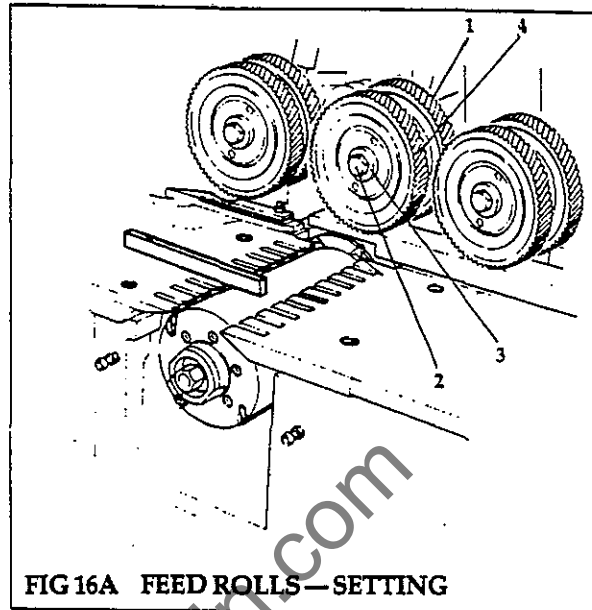
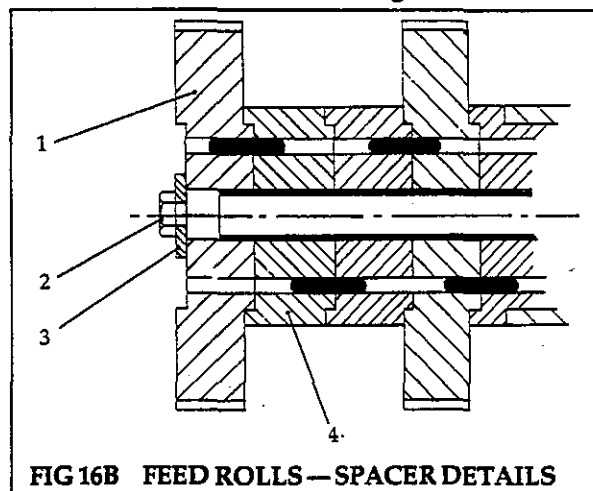

FIG 16A FEED ROLLS — SETTING
FIG 16B FEED ROLLS — SPACER DETAILS
Set Feed Rolls (Fig 16A, Fig 16B)
apart (Fig 16A), rather than having a solid bank of feed rolls.
- a. Slacken centre screw (2), using a 19mm A/F spanner.
- b. Remove 'C' washer (3), add or remove rolls, or spacers (4), to suit width of stock (Fig 16B) ensuring that each roll drive pin engages with its mating part.
- c. Refit 'C' washer (3) and retighten centre screw (2).
- (2) Set feed roll height 3mm lower than thinnest workpiece to give a positive drive.
- (3) When set up, inch timber through the machine to check the setting and switch off.